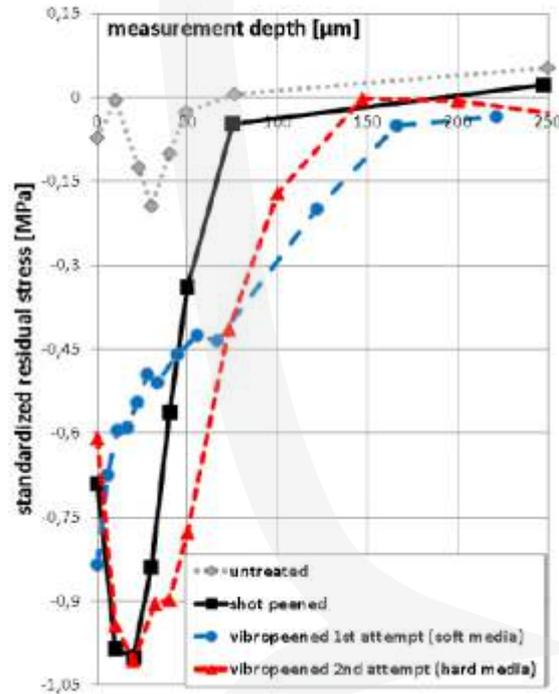

Fig. 6: comparison of residual stress distributions [2]
**Residual Stress Profiles:** All of the above mentioned technologies are inducing residual compressive stresses (RCS), the standardized profiles are shown in Fig. 6. Shot peened shows high surface RCS, a RS maximum in 25  $\mu\text{m}$  depth and an influence depth of about 80  $\mu\text{m}$ . The 1st vibropeening attempt with soft media shows high surface RCS with a continuous decrease to an influence depth of about 150  $\mu\text{m}$ . This is mainly generated by the unfavorable pairing between component and media hardness which leads to a shifting of the generated RCS by plastically deformation and hertzian pressure. [6, 8] The 2nd vibropeening attempt shows surface RCS almost equal to shot peening with a bellied distribution in a depth of 25  $\mu\text{m}$  equal to shot peening. The influence depth is higher than shot peening and lays about 150  $\mu\text{m}$ .